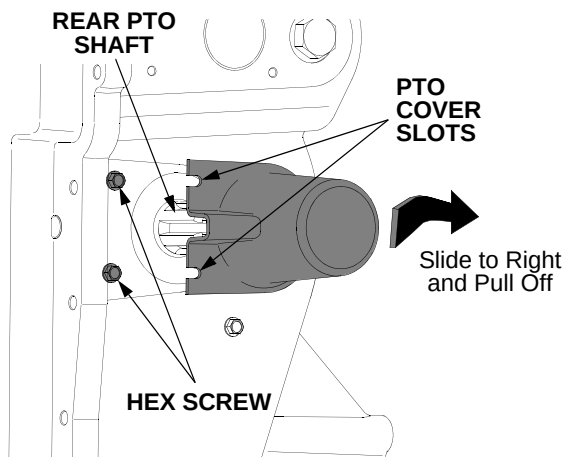

Figure 20
- Loosen the two screws on the left side of the cover. Refer to Figure 20.
- Slide the cover to the right until the slots of the cover are free of the screws and pull the cover off. See Figure 20.
- When finished using the rear PTO, slide the cover fully onto the shaft; then slide the cover to the left until the slots are underneath the screw heads. Tighten the screws to secure the cover. Refer to Figure 20.